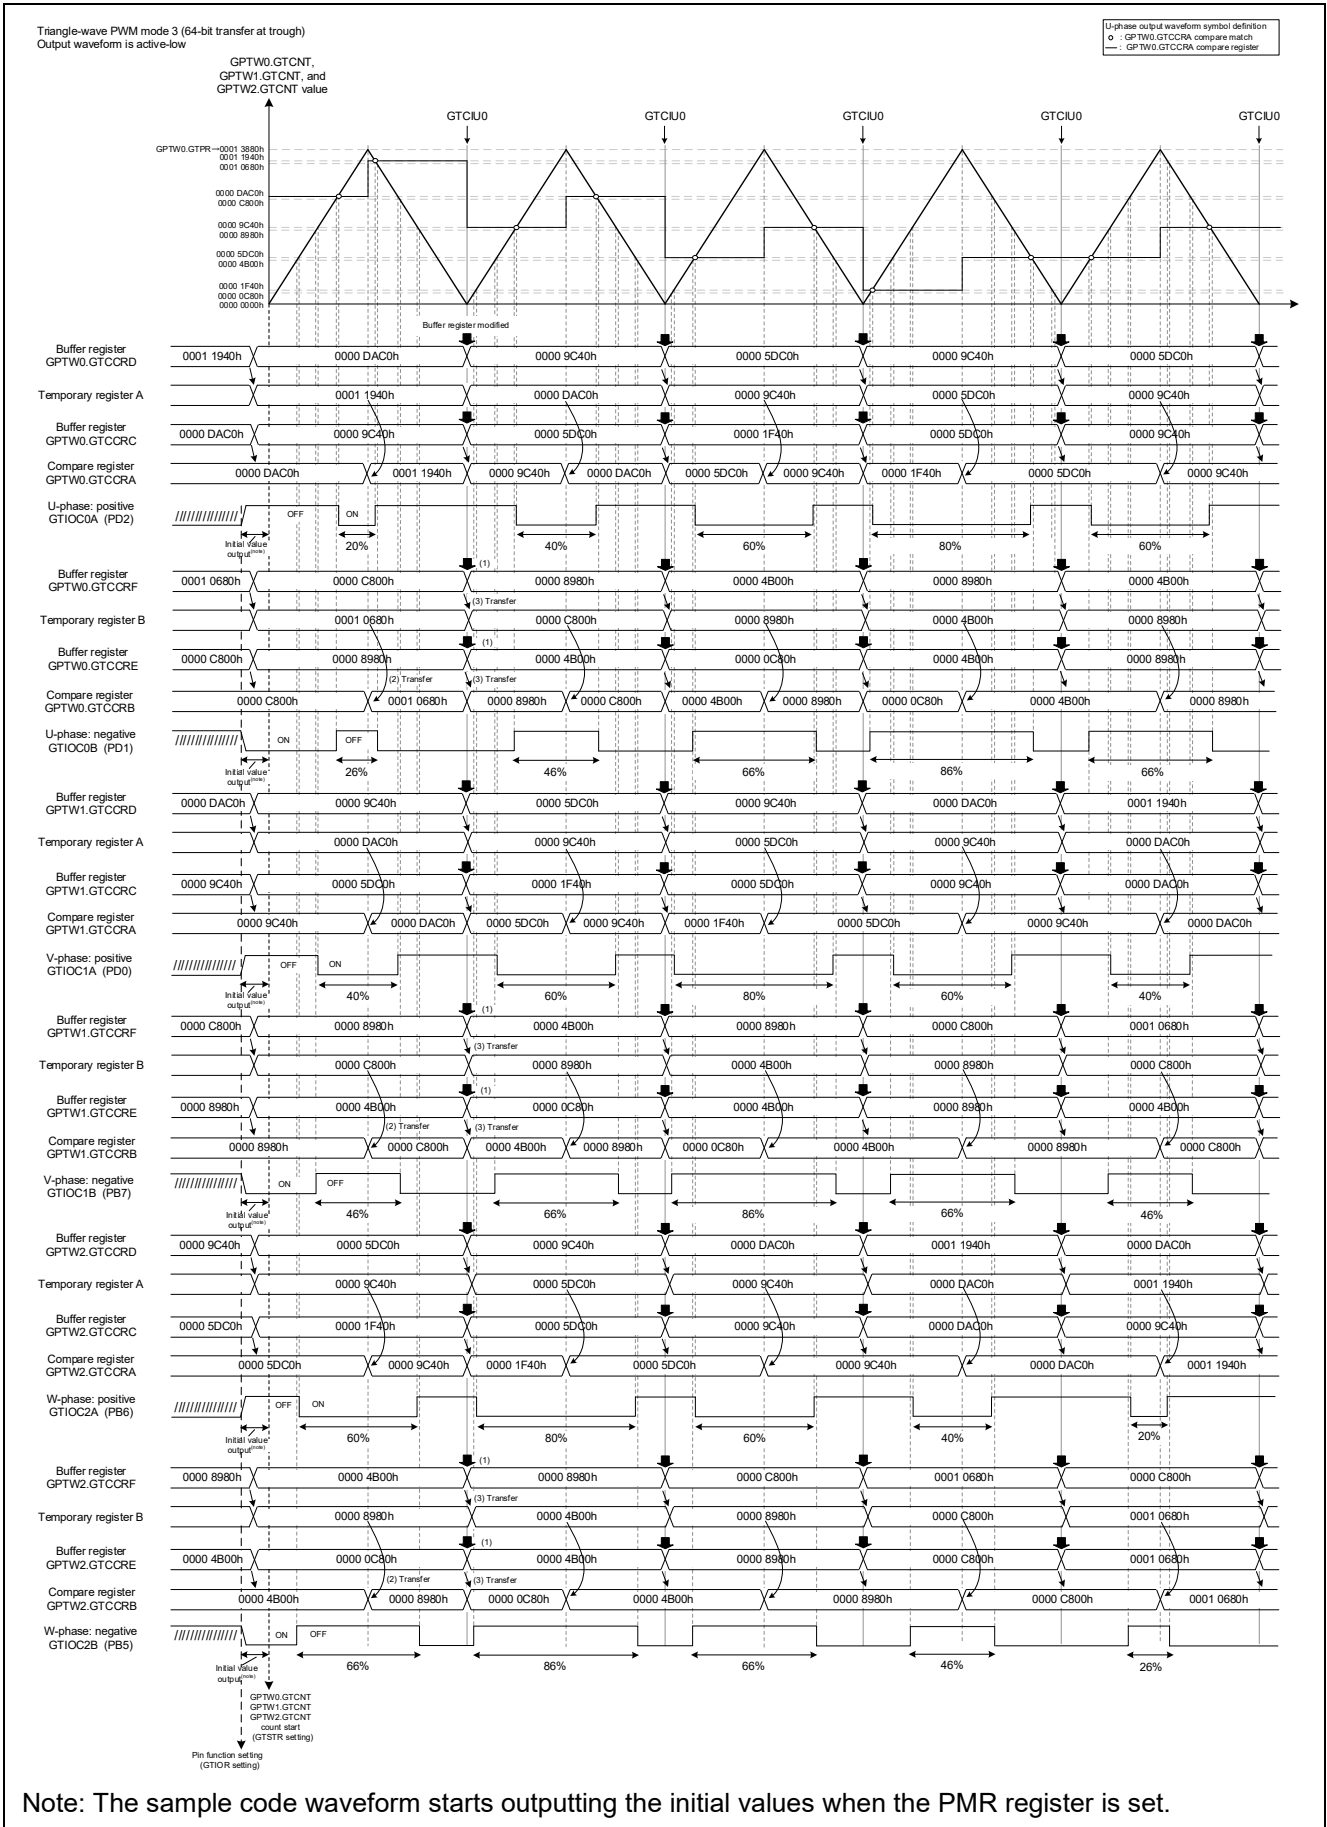

Figure 4.79 When Not Using Automatic Dead Time Setting Function (Triangle-Wave PWM Mode 3)
Figure 4.79 shows operations when the automatic dead time setting function is not used (GTDTCR.TDE bit is set to 0).
Similar to the positive-phase, in the negative-phase the compare value is updated with every cycle by modifying buffer registers GTCCRE and GTCCRF when a GTCNT counter underflow (trough) occurs ((1) Figure 4.79), transferring temporary register B to compare register GTCCRB when a GTCNT counter overflow (crest) occurs ((2) in Figure 4.79), and transferring buffer register GTCCRF to temporary register B and buffer register GTCCRE to compare register GTCCRB when GTCNT counter underflow (trough) occurs ((3) in Figure 4.79).